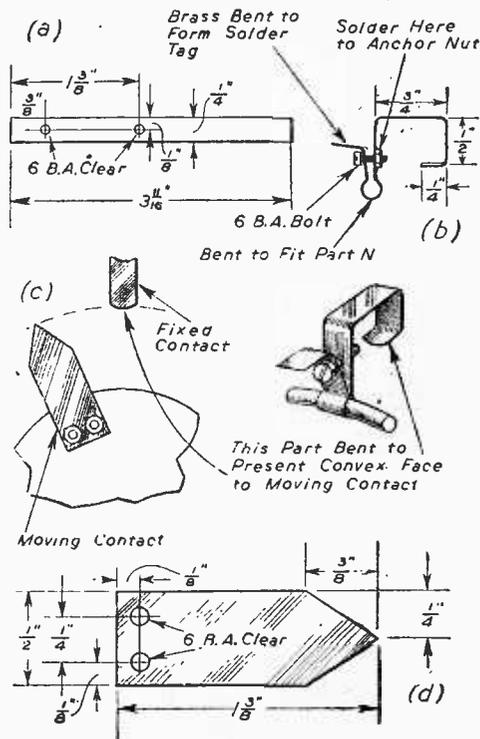

Fig. 21.—(a) and (b). Details of fixed contacts. (c) The convex contact point mentioned in the text. (d) The pointer.
THE contacts next need to be manufactured. No great accuracy is needed here, as the method of fixing allows the downward pressure as well as the sideways movement of these contacts to be adjusted. Fig. 21 (a) and (b) give details of the contacts. The material used may be springy brass (as obtained from a flash lamp battery), phosphor-bronze, or any other fairly springy metal. The contacts are self-wiping and are only needed to light a dial-lamp, so there is little need to worry about special contact surfaces. It will be seen that the contact is bent at one end to fit the semi-circular contact holder, part N. A 6 B.A. nut and bolt are fitted to the two holes drilled in Fig. 21 (a) to allow the contact to grip the holder tightly at the desired position. A small spot of solder holds the nut to the brass, making it an anchor nut. It will be seen that the screw is tightened and loosened from behind.
The part of the contact which touches the contact on the moving disc is made to present a slightly convex surface to that contact. See Fig. 21 (b) and (c). This ensures a smoother travel.
24. The moving contact just mentioned is made from brass plate, as shown in Fig. 21 (d). It is mounted as shown in the photograph, on the front side of the circular disc.